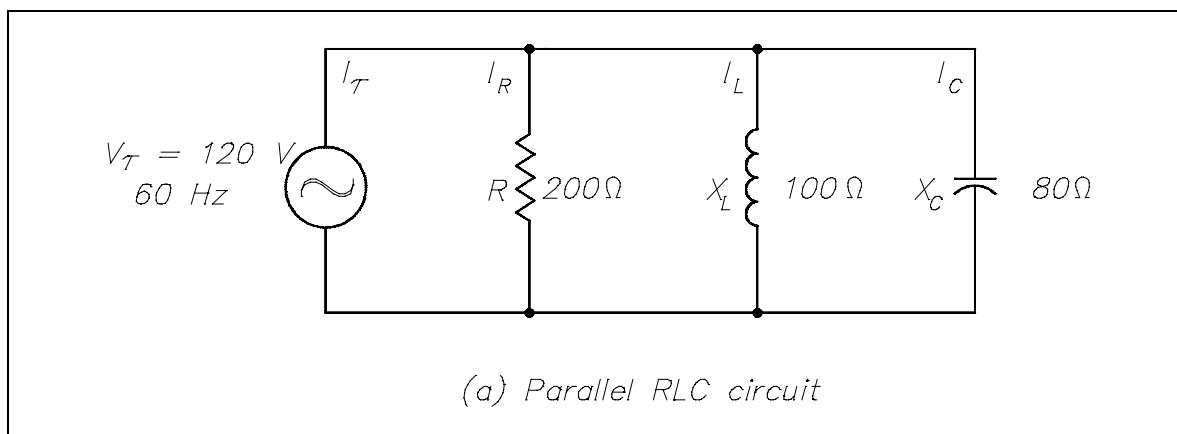

Figure 10 Simple Parallel R-C-L Circuit
Example: A  $200\ \Omega$  resistor, a  $100\ \Omega$   $X_L$ , and an  $80\ \Omega$   $X_C$  are placed in parallel across a 120V AC source (Figure 10). Find: (1) the branch currents, (2) the total current, and (3) the impedance.
If a capacitor and an inductor, each with negligible resistance, are connected in parallel and the frequency is adjusted such that reactances are exactly equal, current will flow in the inductor and the capacitor, but the total current will be negligible. The parallel C-L circuit will present an almost infinite impedance. The capacitor will alternately charge and discharge through the inductor. Thus, in a parallel R-C-L, as in Figure 10, the net current flow through the circuit is at minimum because of the high impedance presented by  $X_L$  and  $X_C$  in parallel.